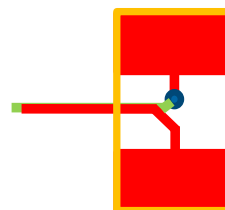

FIGURE 78. RECOMMENDED LAYOUT PATTERN FOR CURRENT SENSE TRACES REGULATOR
12. The current sensing traces must be laid out very carefully because they carry tiny signals with only tens of mV. For the current sensing traces close to the power sense resistor (R_{SENx}), the layout pattern shown in Figure 78 is recommended. Assuming the R_{SENx} is placed in the top layer (red), route one current sense connection from the middle of one R_{SENx} pad in the top layer under the resistor (red trace). For the other current-sensing trace, from the middle of the other pad on R_{SENx} in top layer, after a short distance, via down to the second layer and route this trace right under the top layer current sense trace.